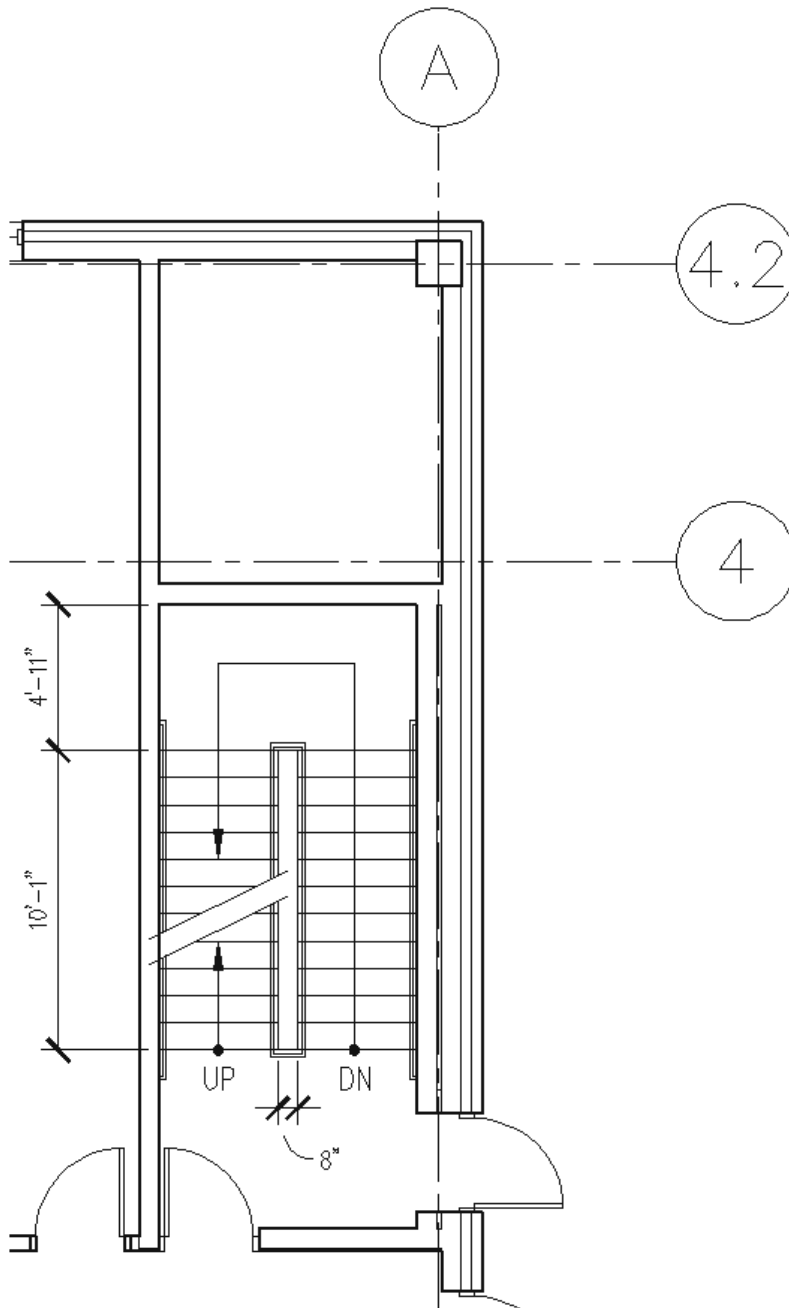

FIGURE 4-3.18 East utility stair shaft
33. Following the same instructions as the previous step, draw the east stair per **Figure 4-3.18**, plus